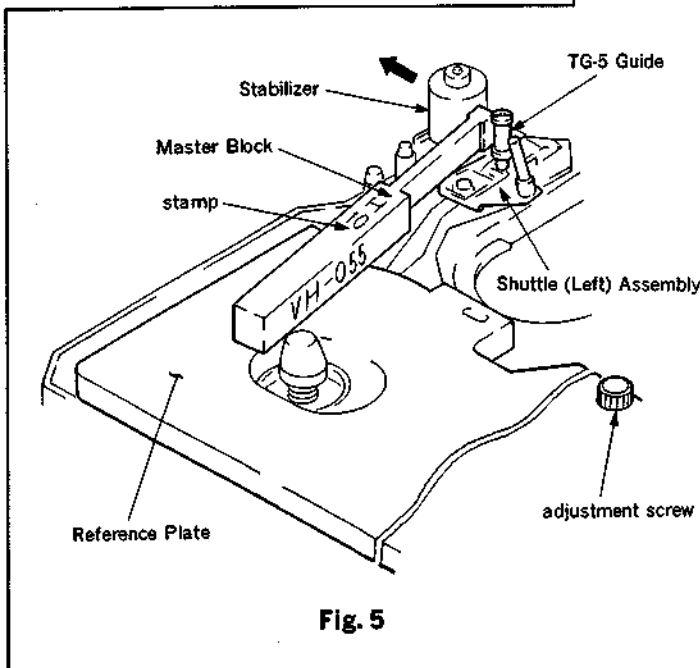

Fig. 5
- (1) Press the **PLAY** button on the remote controller for the threading completion mode. (See sub-section 4-1-3.)
- (2) Clean the mounting face of the reference plate and the four mounting faces on the chassis with cleaning fluid.
- (3) Install the reference plate on the chassis. (Fig. 5) (If the reference plate moves about when the top of the plate is touched gently with the fingers at a point near where it is installed on the chassis, turn the adjustment screw until the plate no longer moves about.)
- (4) Clean the top of the reference plate and the adjustment face of the master block with cleaning fluid.
- (5) While moving the stabilizer in the direction of the arrow, set the master block with the H10 stamped mark upward, then place it against the TG-5 guide from the direction shown in the figure. (Fig. 5)